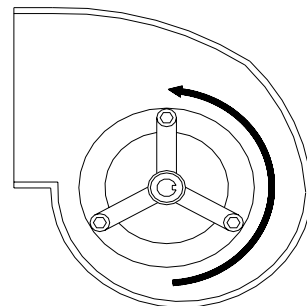

FIGURE 5
- Before re-assembling the electrical box cover, momentarily turn unit on and off via the remote start/stop switch. Note the rotation of the blower wheel. Proper rotation is shown in Figure 5.